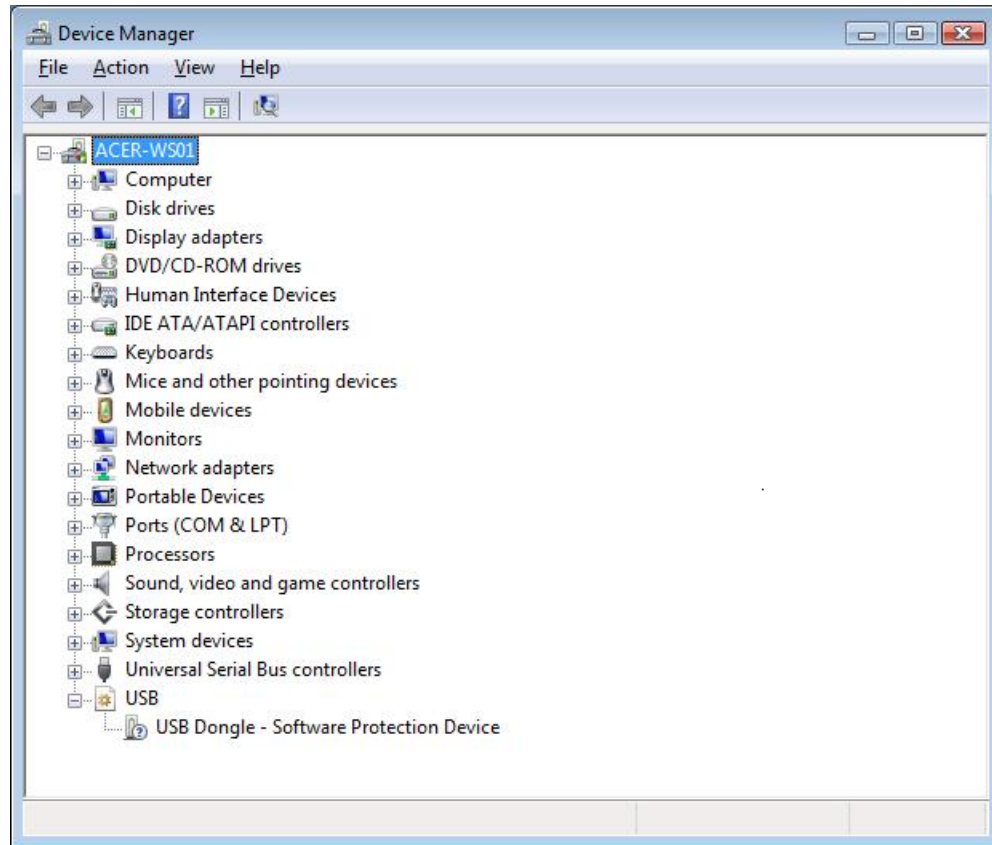

FIGURE 12-6 WINDOWS 7, 10 DEVICE MANAGER
- 7 If the driver was installed correctly, the USB Dongle – Software Protection Device will appear as in Figure 12-6 above. If the driver has not been installed correctly, yellow exclamation mark will appear next to the device.